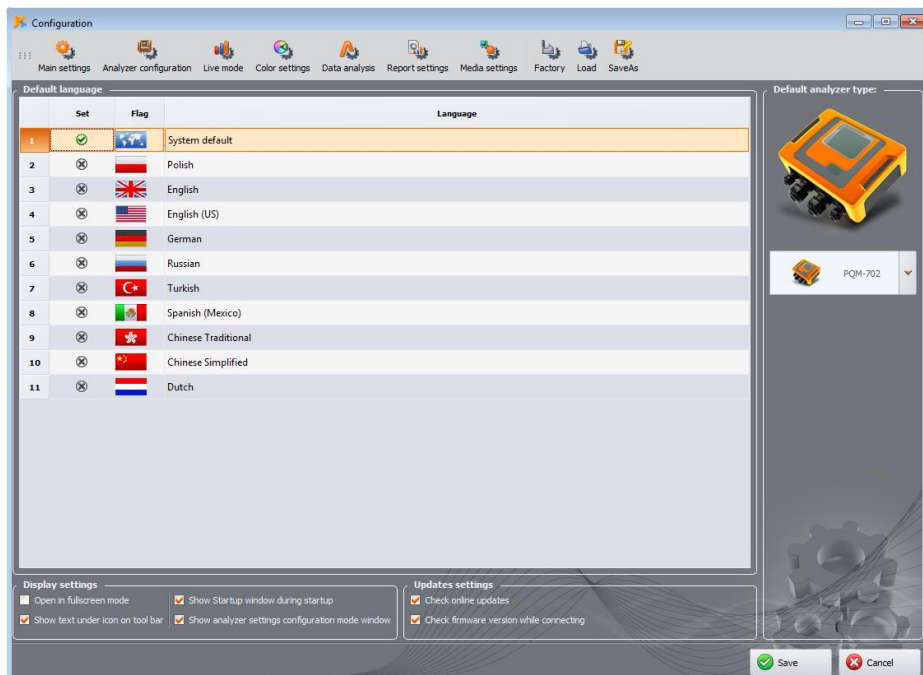

Fig. 78. Program configuration - Main settings.
- **DEFAULT LANGUAGE** – used to select the default language of the application (Fig. 78).